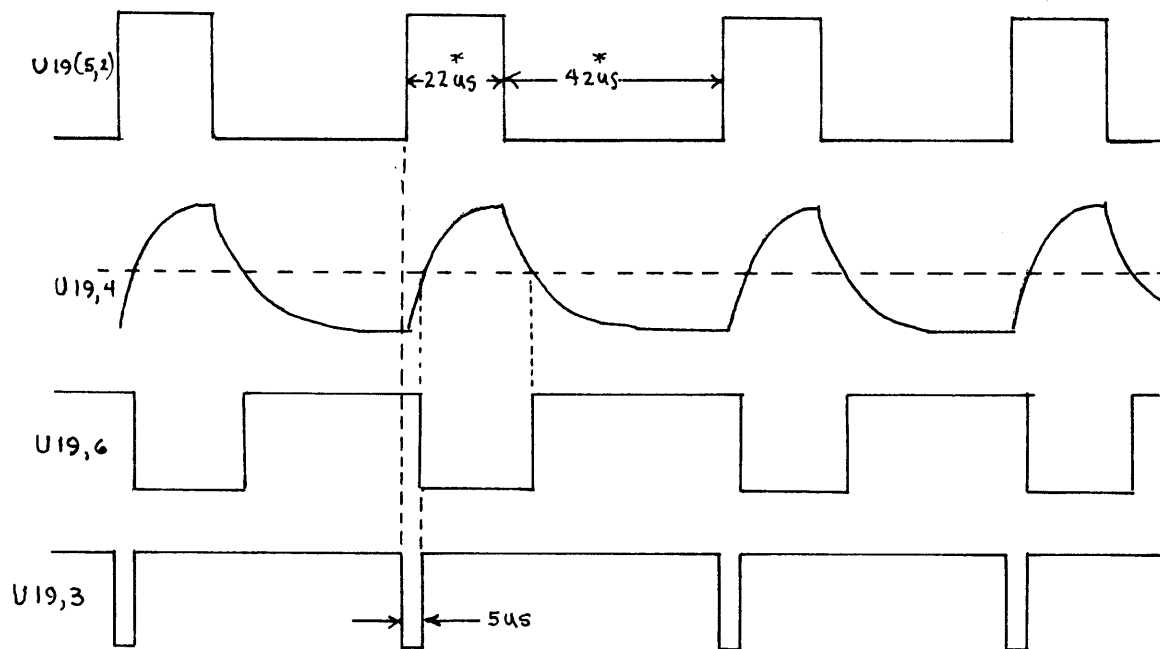

FIGURE 1
2. Refer to the attached drawings Fig. 1 showing circuit side and Fig. 2 showing component side. Make the circuit TRACE cuts on each side exactly as shown. (The 2 cuts in the circle at U-17 are only for the cursor Underscore change. Do not cut them unless you are going to install that change also.)